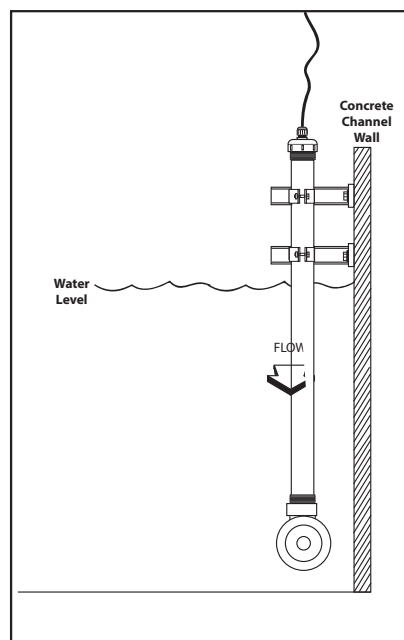

FIG. 16
- I) Slide pipe assembly onto the wall mounting brackets. See FIG. 16.